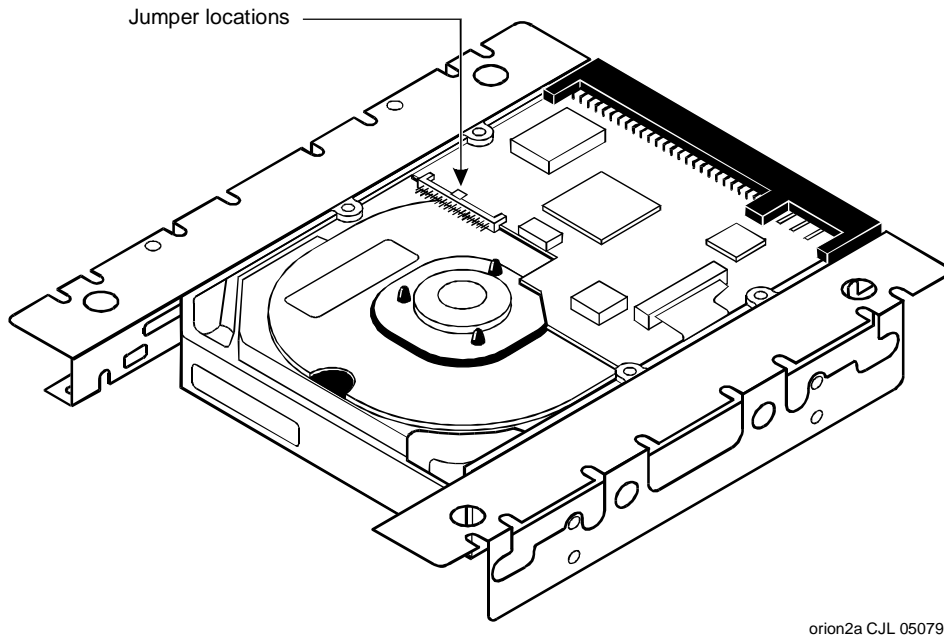
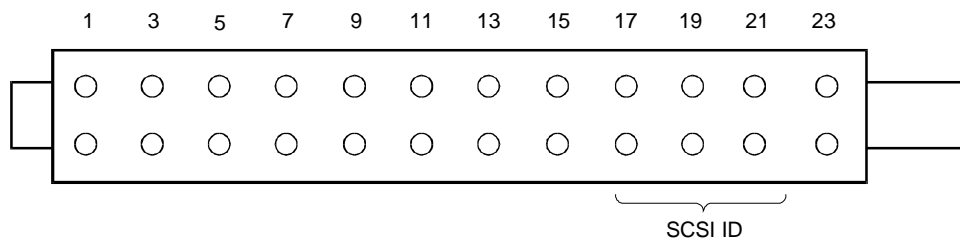
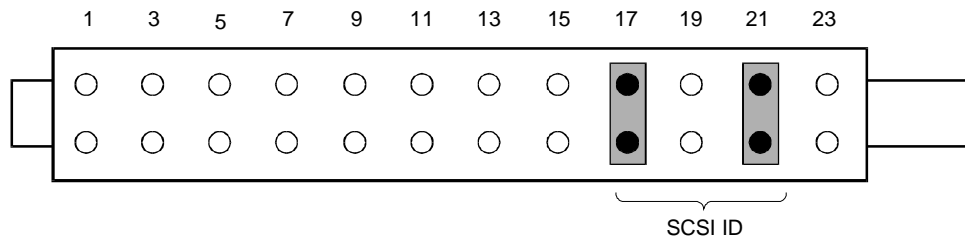

Figure A-23. Jumper Locations on the Type B Hard Disk Drive: Type B
Figure A-24. Type B: Jumper Settings for the First Type B Hard Disk Drive Installed; Bay 1, SCSI ID = 0
Figure A-29. Type B: Jumper Settings for the Sixth Type B Hard Disk Drive Installed; Bay 4, SCSI ID = 5
- n Figure A-23 shows the location of the jumpers on the 2 Type B Gbyte SCSI hard disk drive. Figure A-24 through Figure A-29 show the jumper settings.
The Type B hard disk drive has the jumpers located in the center of the unit (Figure A-23). Figure A-24 through Figure A-29 show the jumper settings for the Type B hard disk drive.